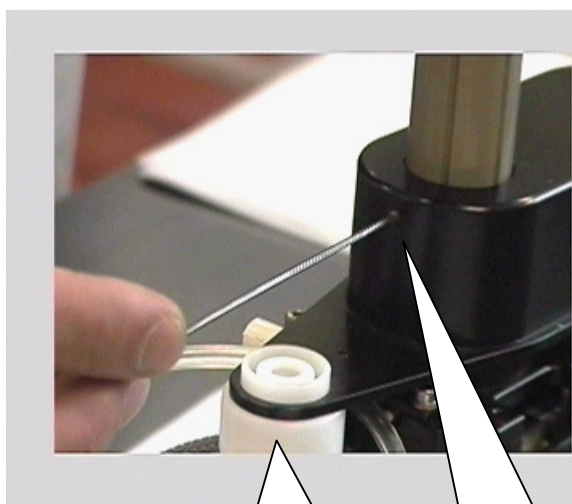

Fig. 2
5. Loosen the protective cover's set screw (Fig.2) and lift it.
**Warning:** Do not tighten the protective cover's set screw as this could result in mechanical malfunction of the sampling arm's vertical movement (Fig. 2).